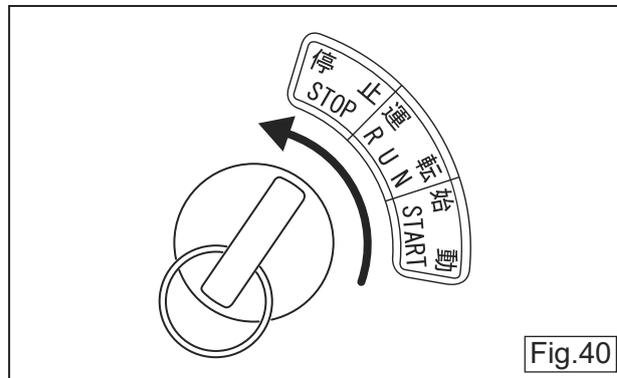

Fig.40
- 3 When the key switch is moved from "ON(Operation)" to "OFF(Stop)", the buzzer stops. (Fig. 40)